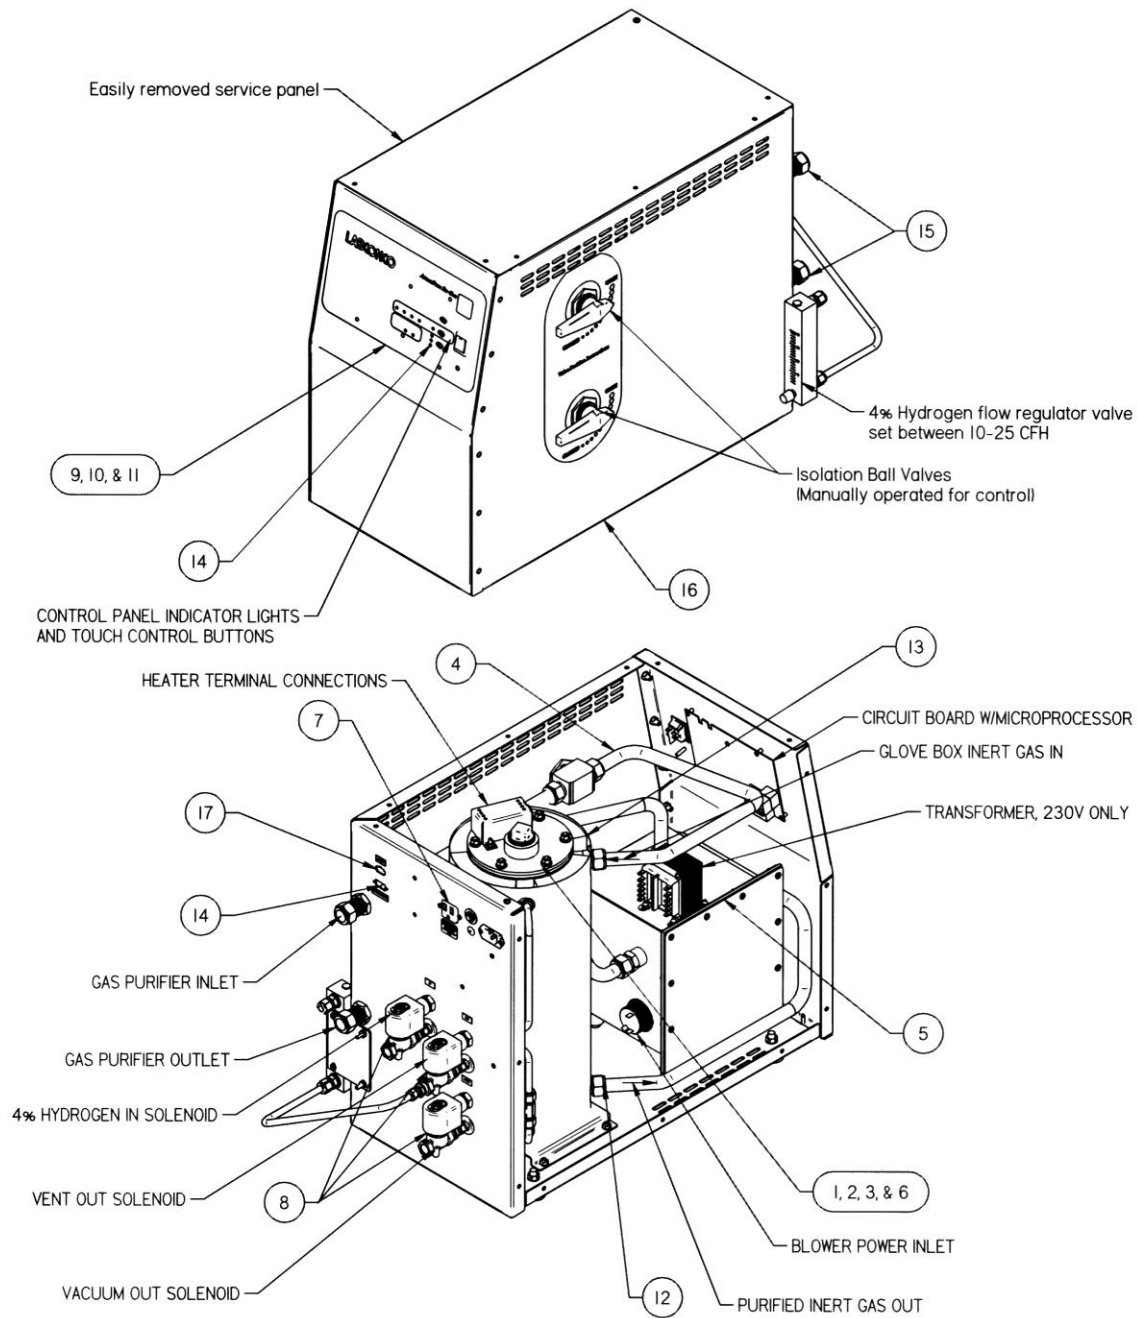

Figure 4-1
Labconco has engineered the Gas Purifier to meet the ISO 10648-2 Class 1 atmosphere leak specification when used with Labconco controlled atmosphere glove boxes. The information that follows details performance features so you can get the most out of your Gas Purifier. Refer to Figure 4-1.
2. Turn the unit off and remove the outer service panel. Loosen the large nut near the heater terminal connections on top of the Gas Purifier cylinder. Refer to Figure 4-1 and Figure A-1.